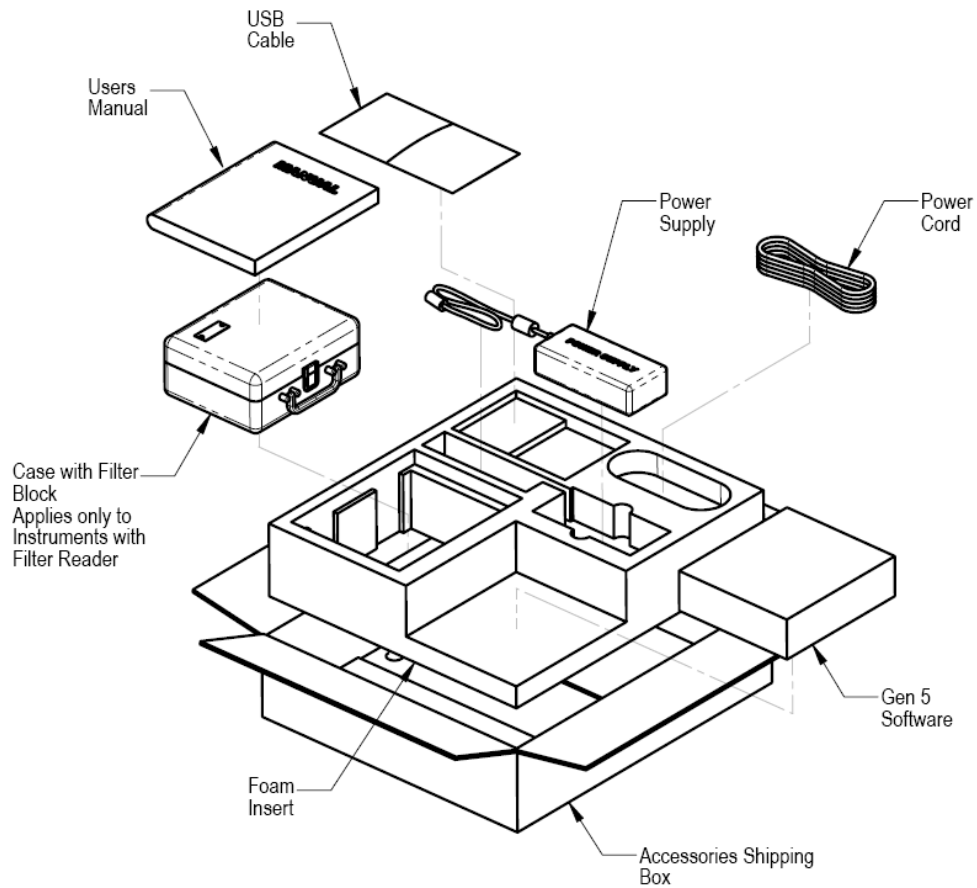

Figure 7: Repacking the Synergy H1 accessories
6. Place the accessories in the accessories box, as shown in **Figure 7**, then seal the accessories box with tape.